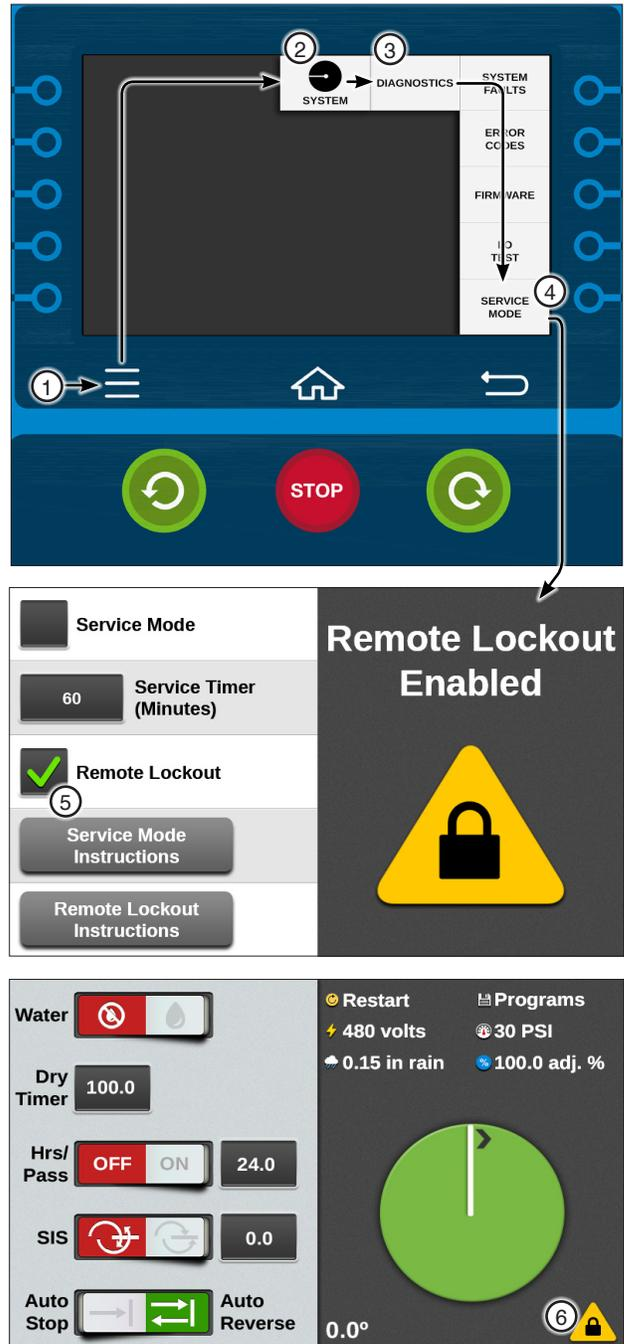

Figure 61-1 1. Menu 2. System 3. Diagnostics 4. Service Mode 5. Remote Lockout Checkbox 6. Remote Lockout Icon
1. Push **Menu**, **System**, **Diagnostics**, **Service** and **Service Mode** to display the Service Mode screen. Refer to Figure 61-1.